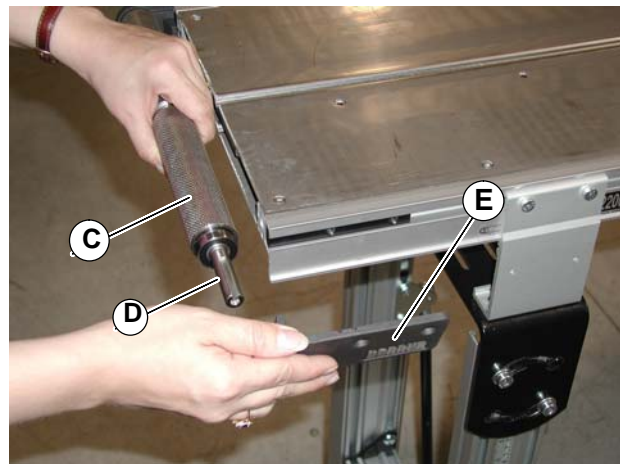

Figure 5
6. Insert the new drive pulley (C of Figure 5) into the head plate on the opposite side.
7. Install the second head plate (E of Figure 5) on the drive shaft corner.